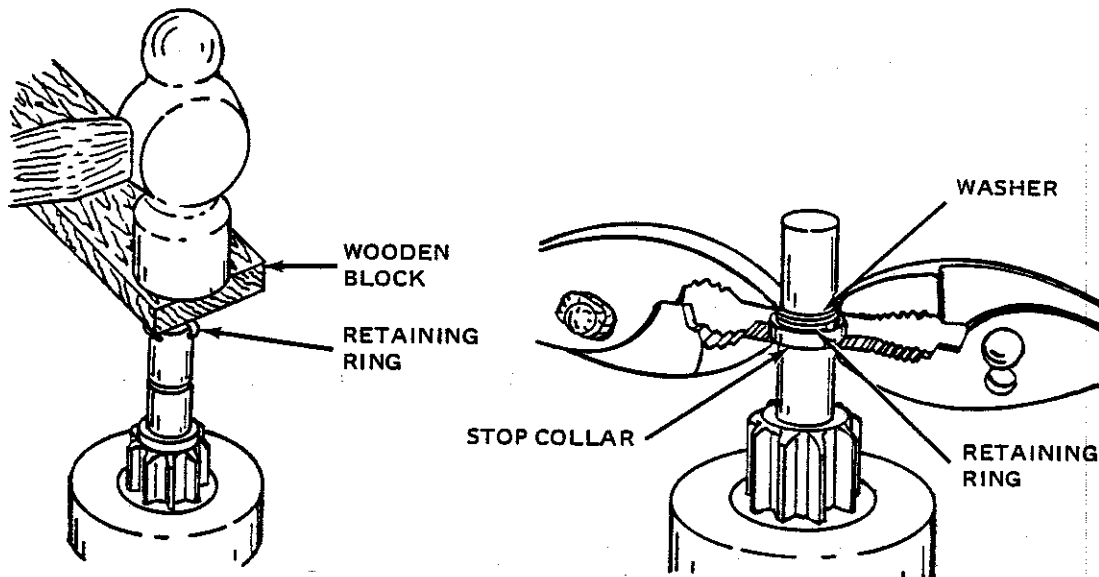

Figure 6-7. Forcing Retaining Ring Over Shaft and Retainer Over Ring
2. Place stop collar (30) on armature shaft with cupped surface facing the retaining ring groove. Place the retaining ring (31) on end of shaft. With a piece of wood on ring (31), force it over the shaft with a light hammer blow as shown in figure 6-7. Then, slide retaining ring (31) down into shaft groove. Place a washer over the shaft and squeeze stop collar and washer together with pliers as shown in figure 6-7. Remove the washer. Install thrust collar (32, figure 7-19).